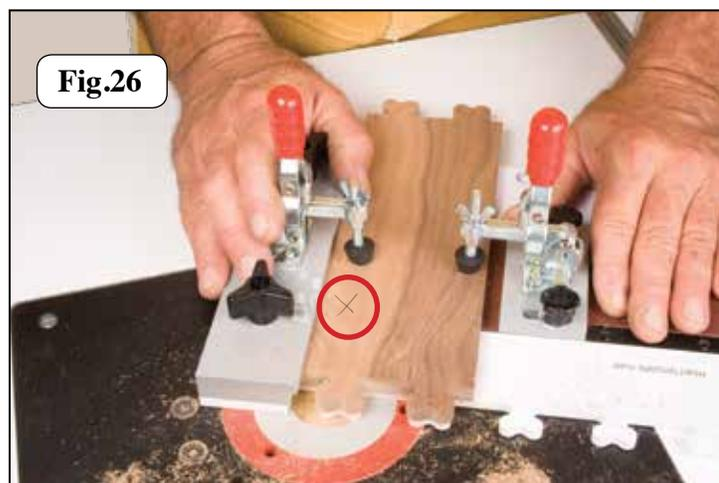

Fig.26
Now that one end of the box is cut, you will now flip the stock, keeping your reference mark (X) against the template alignment block, and following the same instructions shown in **fig. 22**. for set-up. Once the stock is properly set-up and secure in the jig, make the cut (See **Fig. 26**). After making this cut, repeat this entire process on the other side of your box.